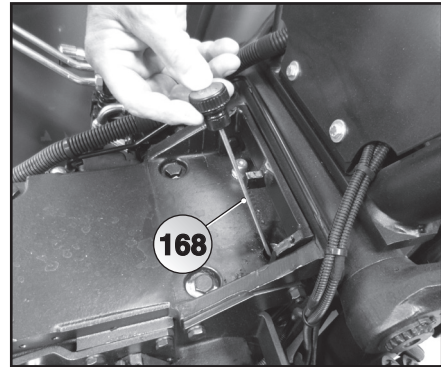

Fig. 6.6
- Replace the filtering elements (153).
- Check the oil level of the rear transmission unit (Fig.6.6), as described in the periodic maintenance instructions.
- Replace the oil in the engine pan (150) and the relative filter cartridge (151). Then replace the engine oil and the engine oil filter at the times specified in the periodic maintenance section. Follow the instructions in the engine's user and maintenance manual.